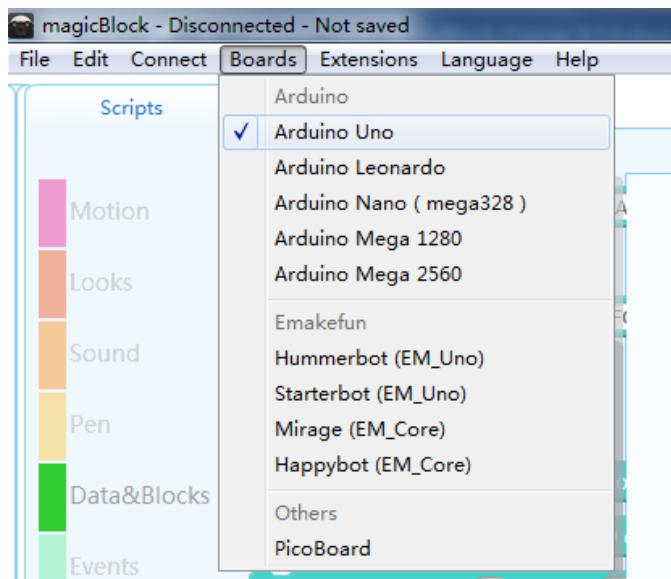

Figure 2-13
- 1) Select the type of control board for program transmission, select "Arduino Uno" as shown in Figure 2-13, and select "Edit Arduino Mode" as shown in Figure 2-15.